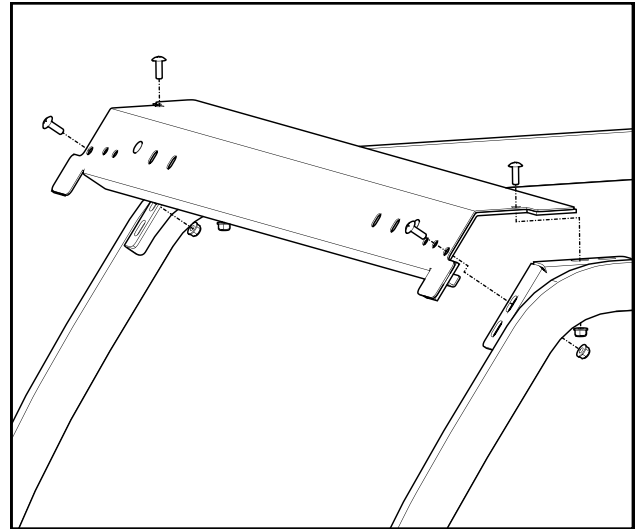

Fig. 7.1 (Windshield Support)
7.1 Install windshield support. See Fig. 7.1. Tighten at this time.